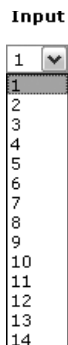

Figure 6-11 — Input selection drop box
1. Click the Input drop box. A drop down scroll box appears (figure 6-11).